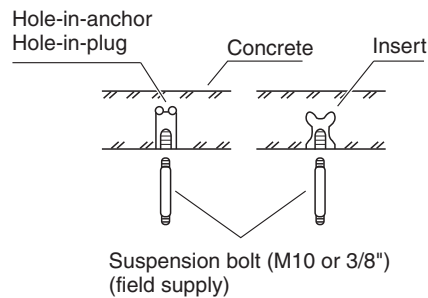

Fig. 1-7
- (1) Fix the suspension bolts securely in the ceiling using the method shown in the diagrams (Figs. 1-7 and 1-8), by attaching them to the ceiling support structure, or by any other method that ensures that the unit will be securely and safely suspended.